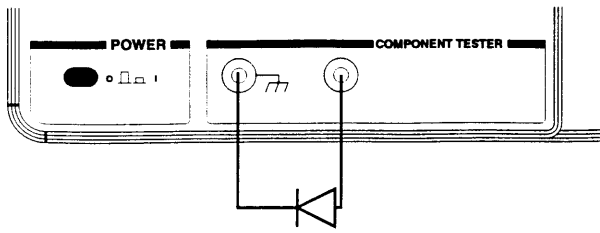

figure 19
- Raccorder la diode aux douilles COMPONENT TESTER (figure 19).